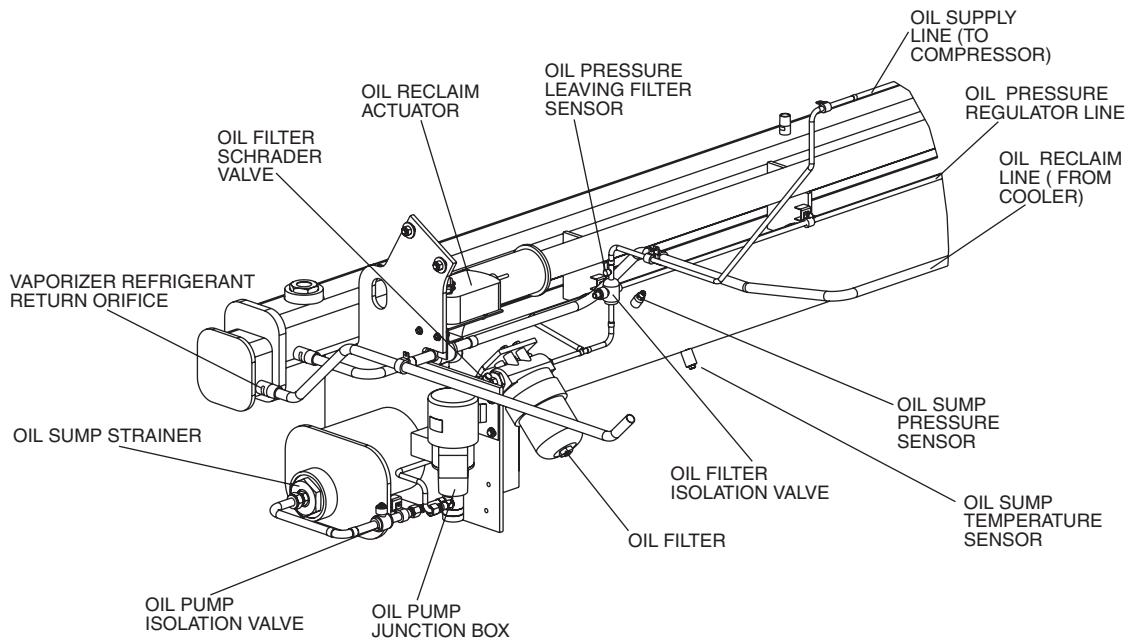

Fig. 56 — Oil Sump Strainer and Filter
2. Close both oil filter isolation valves. See Fig. 56.
Oil Heater — Inspect the oil heater for carbon build-up on the heating element if an adequate oil sump temperature cannot be maintained when the chiller is shut down. It may be necessary to temporarily install the heater element terminal cover to provide additional leverage while threading the oil heater into the sump. The sump oil heater elements must be positioned vertically to allow proper heat convection. See Fig. 56 and 57. The heater element must be installed with the word “TOP” on the threaded fitting facing upward.
Oil Strainers — The oil reclaim system has two strainers. One is installed in the VFD refrigerant cooling line between the cooler and condenser. The second strainer is located in the oil sump strainer housing (see Fig. 56). The oil sump strainer must
Vaporizer Refrigerant Return Line Orifice — There is a metering orifice where the refrigerant return line attaches to the vaporizer (see Fig. 56). This orifice can only be inspected by cutting the vaporizer refrigerant return line near the vaporizer. This orifice should be inspected if hot condenser gas flow through the vaporizer appears to be obstructed.